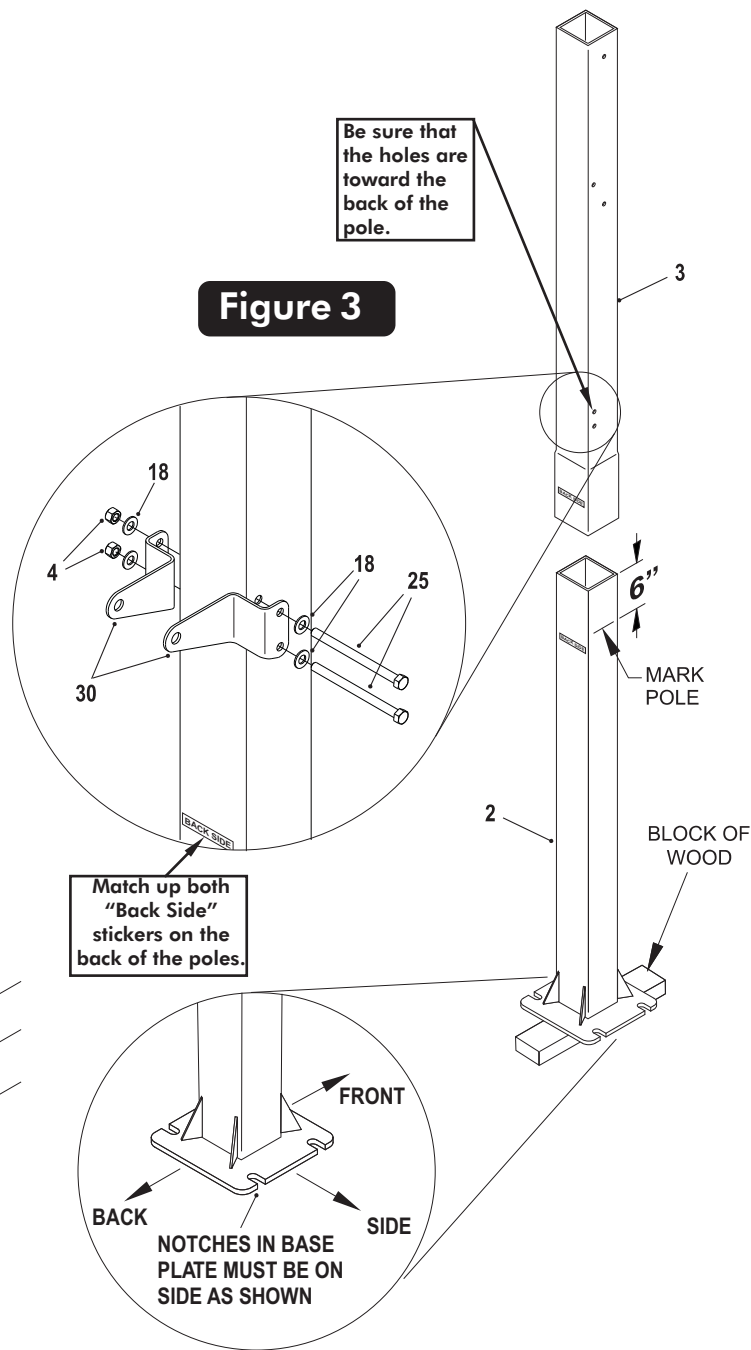

Figure 3
- Before putting any of the poles tubes together, mark bottom pole (#2) 6 inches from the top end. **Be sure to match up both "Back Side" stickers on the back of the poles and that the holes on top pole are toward the back.** See **Figure 3**.
- Align the upper pole (#3) with the bottom pole (#2) as shown in **Figure 3** and slide them together. Stand poles up on a block of wood, **lift poles up** and hit on a block of wood until the bottom of the upper pole reaches the 6" mark on the bottom pole. Hit poles a minimum of 7 times. This is a friction-locking joint and requires no hardware.
- Attach Post Ears (#30) to holes near the bottom of Top Post (#3) using two hex bolts (#25) four washers (#18) and two lock nuts (#4). See **Figure 3**.